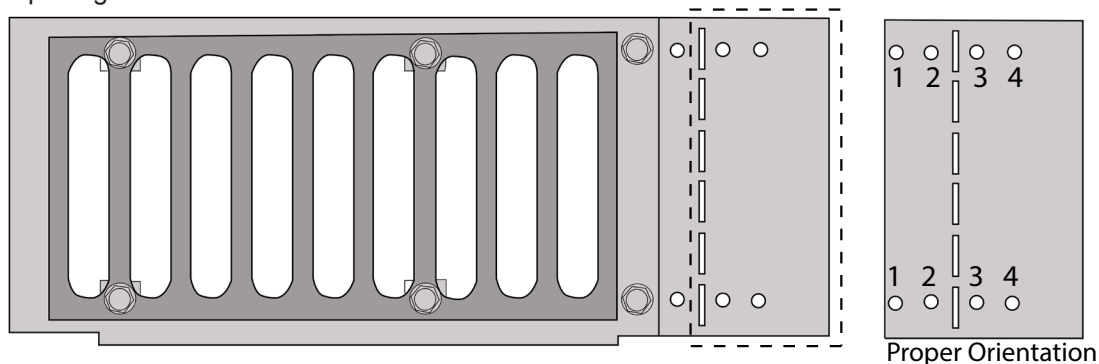

Fig. 5 Extension bracket installed
The bracket extension can be used to extend the vent bracket from 8-inches wide up to 10-inches wide if necessary. The holes in the bracket extension allow for 1/2" increments for width adjustment. Figure 5 shows the extension in the properly oriented position. If the extension bracket is installed and your are using any of the holes numbered 3 & 4, the perforated area should be bent and broken off (removed) to ensure you are not covering the vent bracket opening.
STEP 4: Drill the two holes with a 3/16" concrete drill bit and secure the paver vent bracket with the two concrete screws. Figure 5 shows front view.